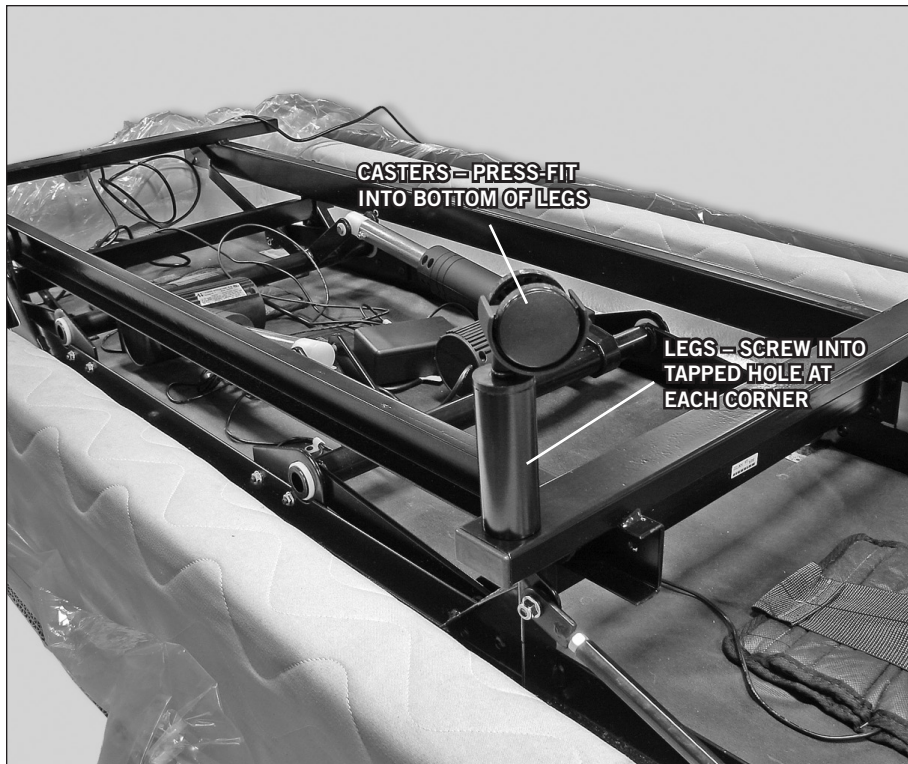

FIGURE 1: Leg and caster installation.
Install (4) legs into the base frame. Simply screw each leg into a tapped hole at each corner of the base frame (**FIGURE 1**). Insert casters into the bottom of each base leg.